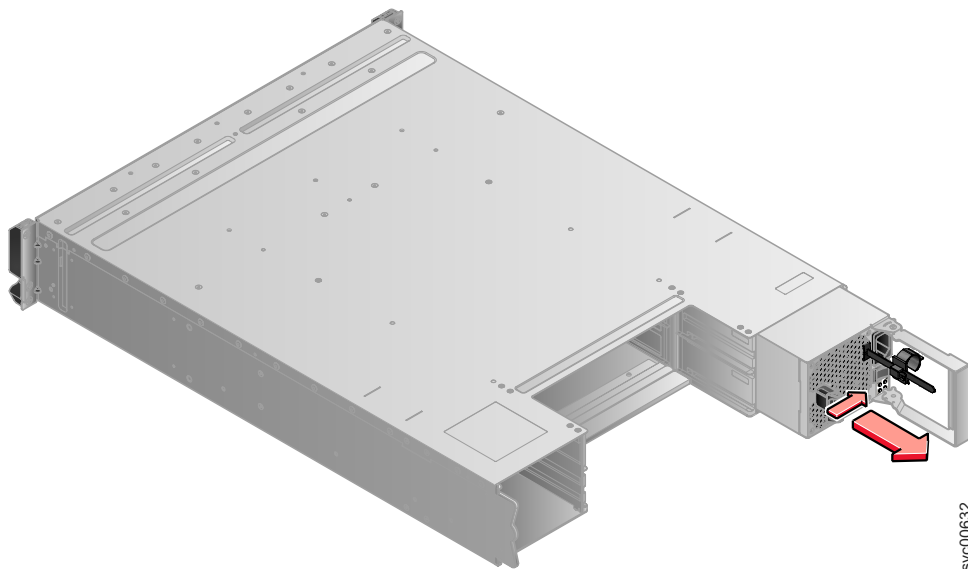

Figure 86. Using the handle to remove a power supply unit
- b. Grip the handle to pull the power supply out of the enclosure as shown in Figure 86.